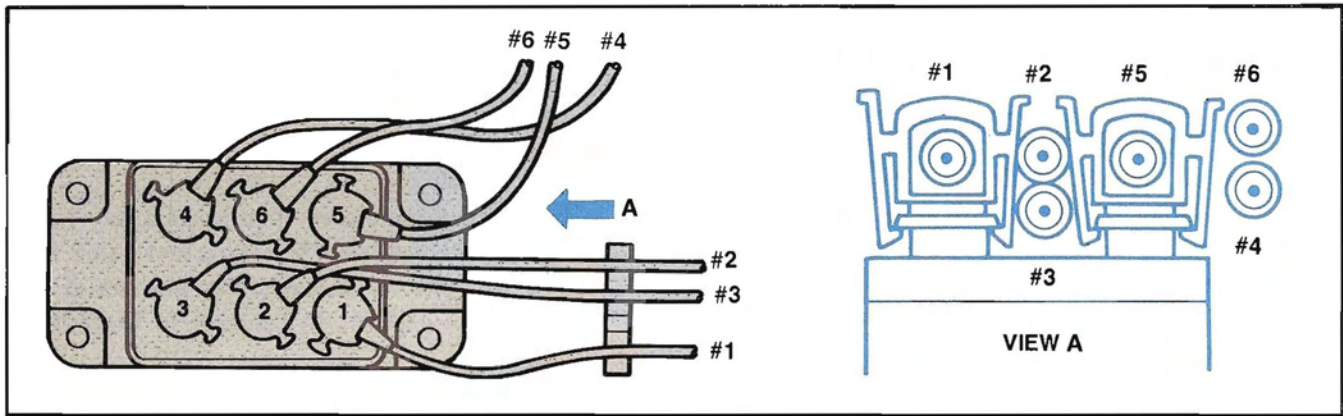

Figure 165. Spark Plug Wire Routing
5. Adjust the spark plug wire routing (Fig. 165).